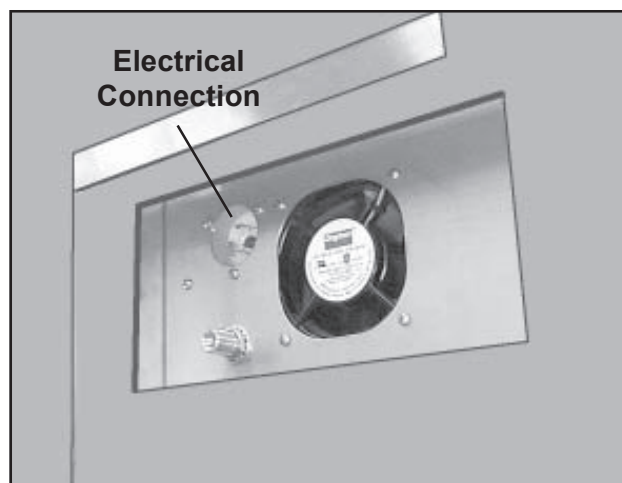

Figure 41. Electrical Connection at Rear of Unit
4. Plug the large end of the power cord into the power connection at the rear of the unit (Figure 41) and twist clockwise to lock.